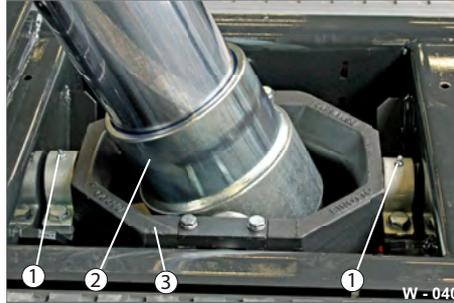

Fig. 40 Bottom bearing
- ▶ Clean the bearing points/lubrication nipple at the bottom on the slewing ring (Fig. 40/3) with a clean cloth.
- ▶ Lubricate the bearing blocks on the lubrication nipple (Fig. 40/1).